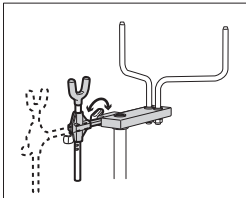

Fig.7
4. Adjust the position of the Receiver so that it is placed under the central Tenor Drum Spacer, and tighten the Wing Bolt on the Stability Arm. (Fig.7)